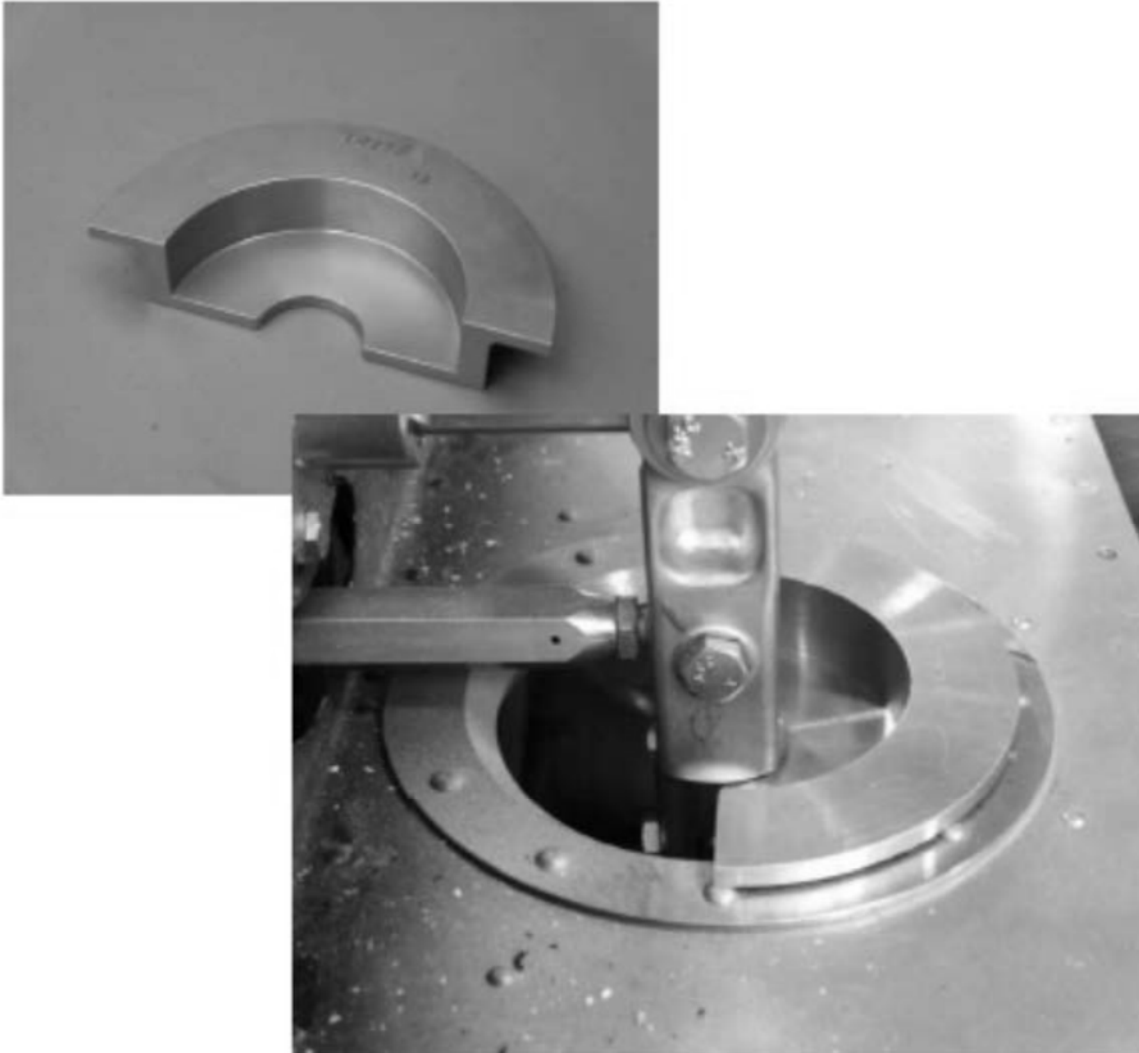

Figure 12-13. Cyclic Stick Rigging, Tool T-1775 Installed
5. Install cyclic centering tool T-1775 in the stop ring (Figure 12-13).
6. Position bellcrank (7) so the forward edge is in vertical position. Adjust length of rod (8) to hold this position. Secure check nuts.
1. Install rigging tool T-1775 in the cyclic stop ring (Figure 12-13).